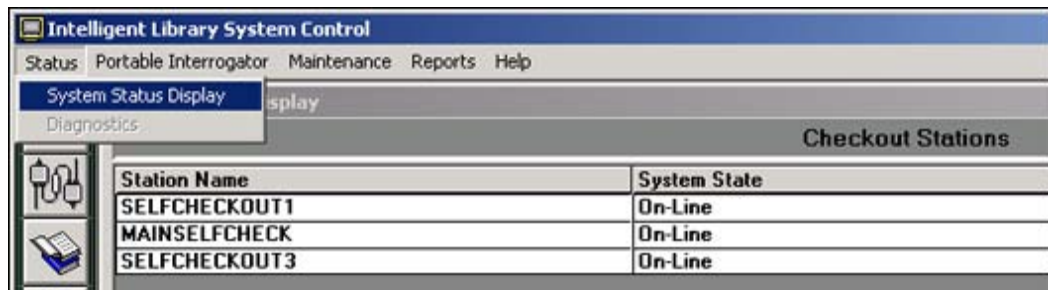

Figure 2.4 System Status Menu Selection
- ▶ Select **Status > System Status Display** in the menu bar. See Figure 2.4.